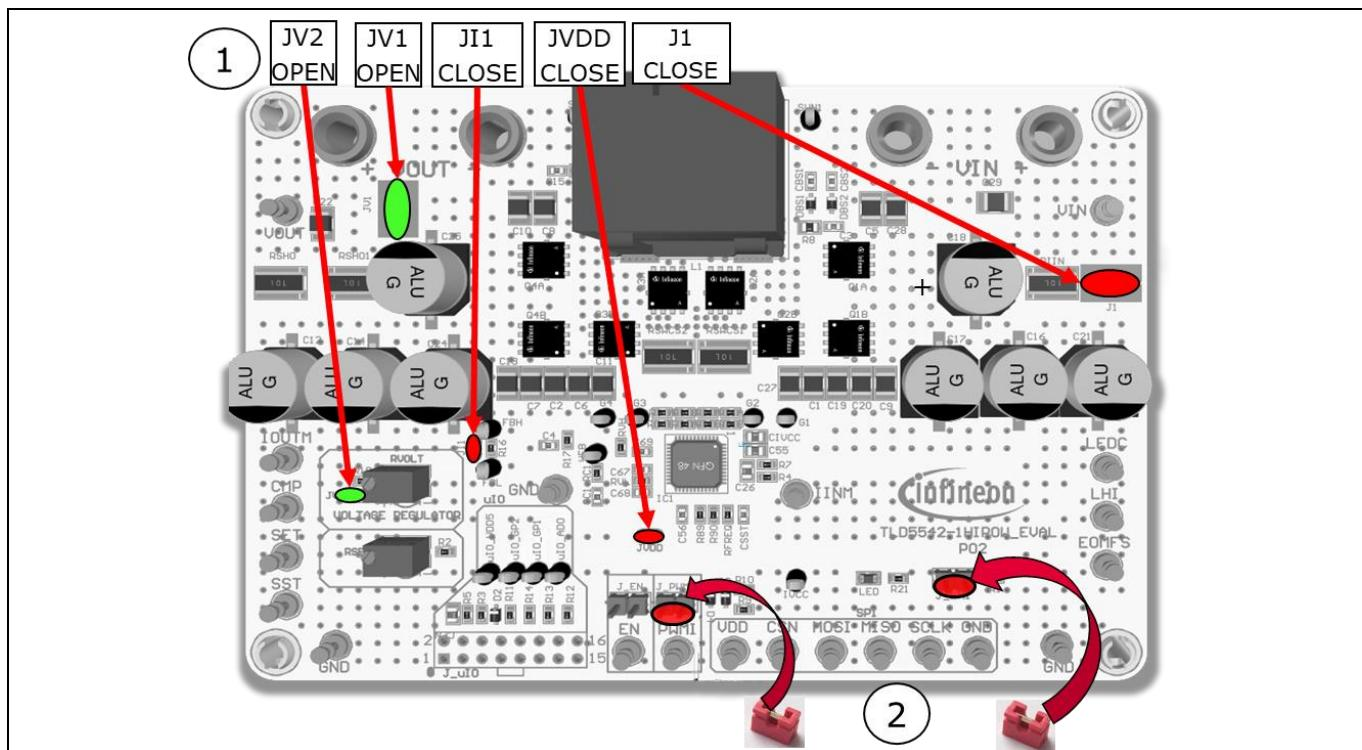

Figure 4 Jumpers to be set for current regulator mode no µC
1. Configure solder jumper for LED driver configuration as in Figure 4